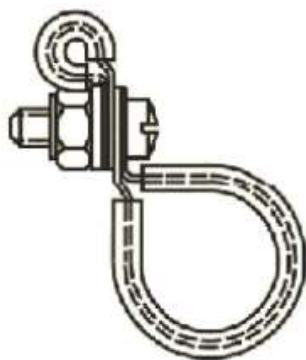
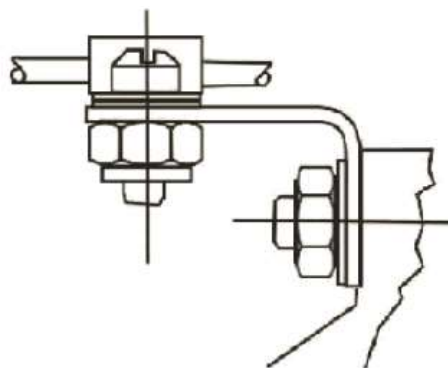

Figure 5
Figure 6
- (2) Make a sketch to identify clamps that attach to brackets for reference on assembly.
- (3) Remove the P-clamps (Figure 5) from L-shape clamp (Figure 6) or engine attachment point.
- (4) Remove the P-clamps from the fuel line.
- (5) Disconnect the fuel hose from the fitting on each end.
- (6) Remove the fuel hose. (Keep the fuel fittings if they are not part of the fuel hose.)
- (4) Connect the fuel hose to the fuel fitting on each end.
- (5) Torque each fuel hose fitting in accordance with the Standard Torque Tables in the latest revision of the *Service Table of Limits - SSP-1776*.
- (6) Make sure that the fuel hoses are securely held in place, attached to the engine (to dampen vibration during flight) with the necessary serviceable cushioned clamps and hardware. Install clamps on the fuel hose as per the following guidelines:
- (c) Refer to Figures 5 and 6 which show how the fasteners are to be installed on P-clamps and L-shaped clamps.